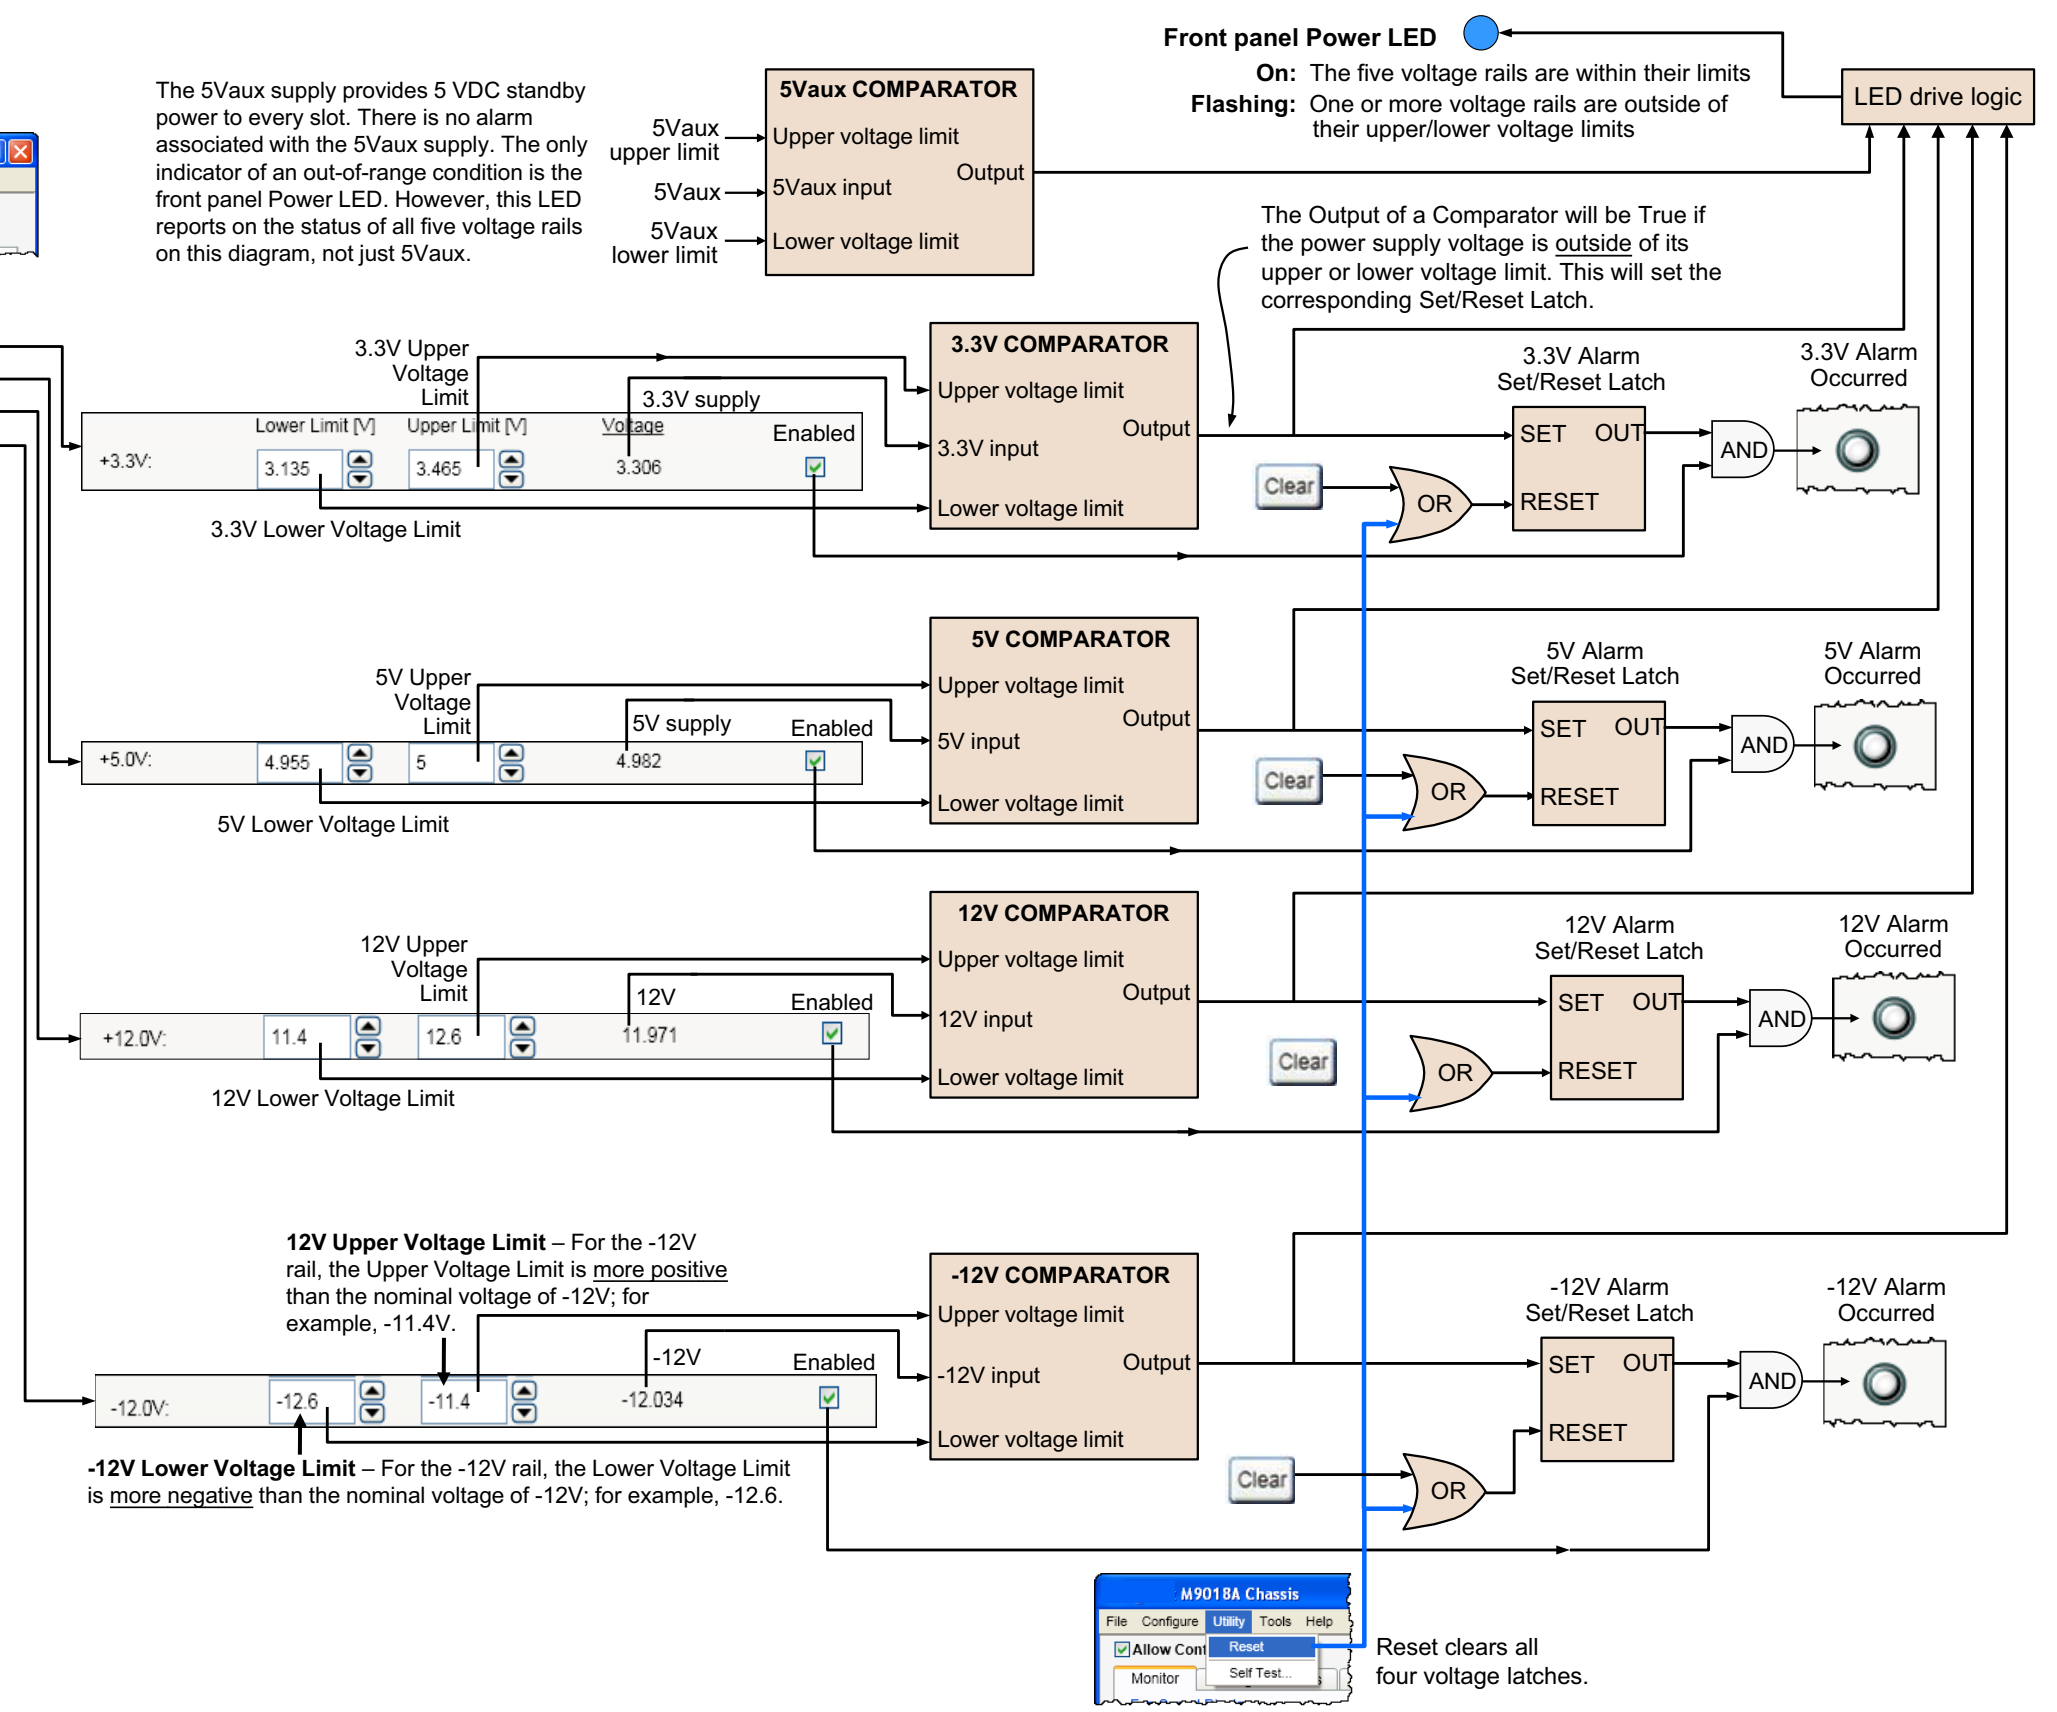

Figure 27 Voltage monitoring using the Soft Front Panel
- Soft front panel (SFP) and the front panel Power LED – Figure 27 on page 56